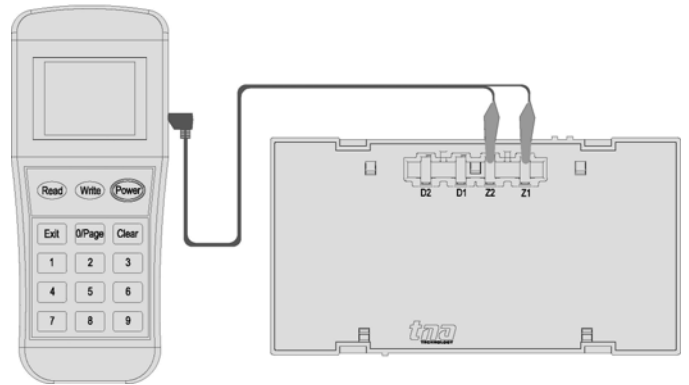

Figure 5
1. Connect the programming cable to Z1 and Z2 terminals (Figure 5). Press **“Power”** to switch on the unit.